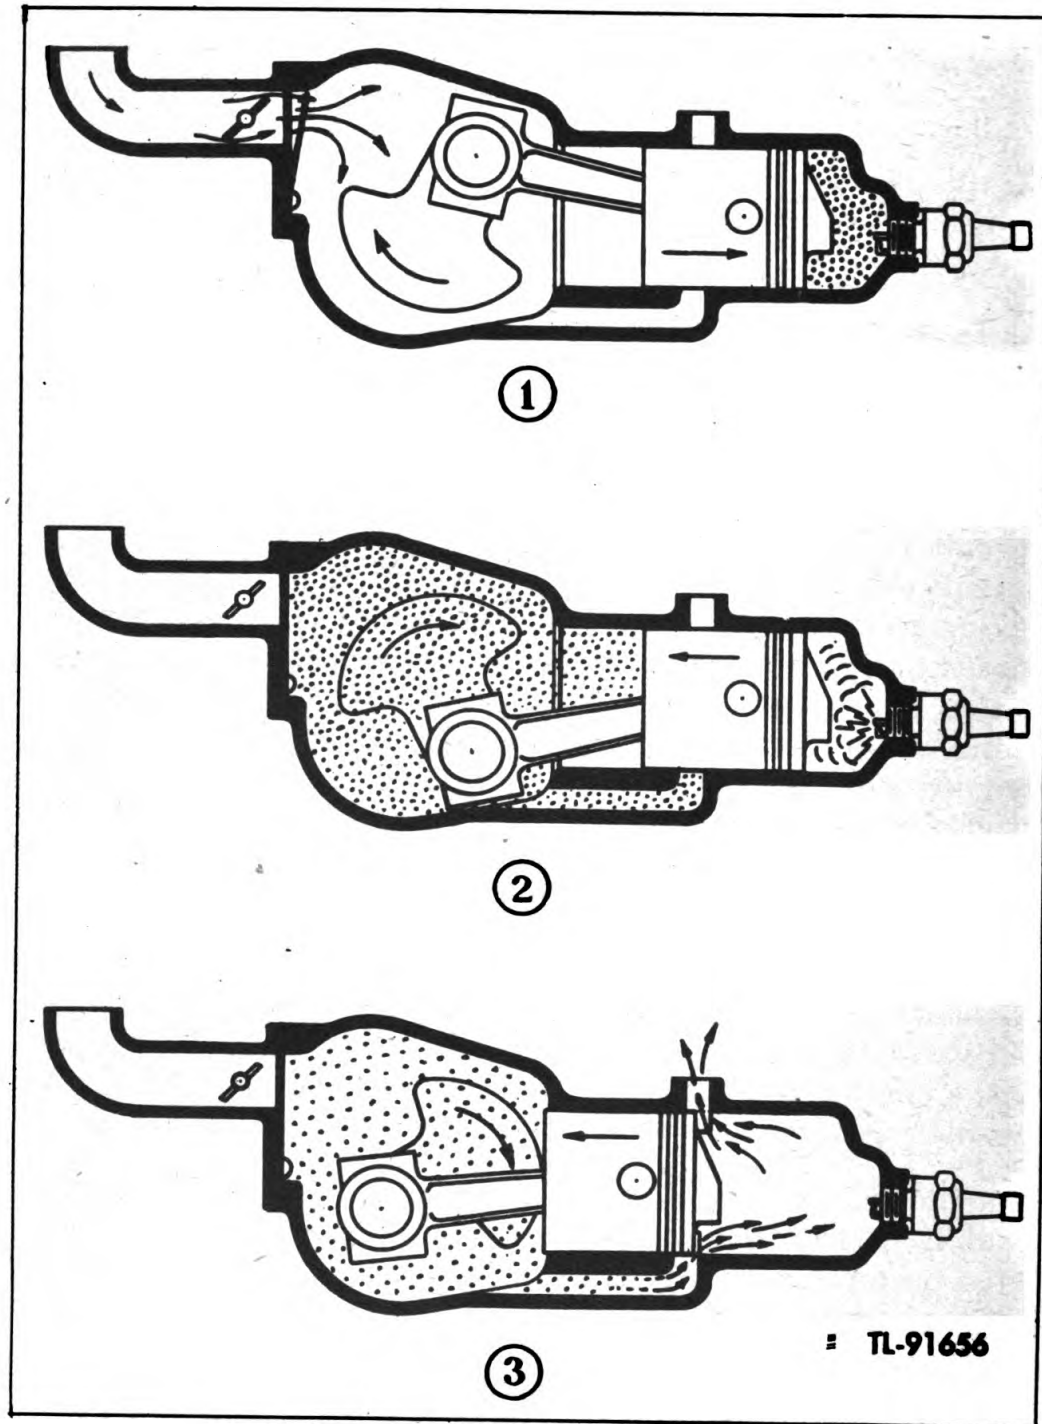

Figure 8. Principle of two-cycle engine
a. As shown in figure 8 (1), the piston, on its up stroke (compression), draws a charge of fuel into the crankcase through a reed valve attached to the rear of the carburetor. At the same time, a charge previously drawn into the crankcase and by-passed into the combustion chamber is compressed above the piston.
b. The charge in the combustion chamber is ignited when the piston is  $\frac{1}{8}$  inch from top dead center (fig. 8 (2)). The expansion of the burning gases forces the piston down on its power stroke. The descending piston compresses the charge previously drawn into the crankcase.
c. Near the bottom of its downward (power) stroke (fig. 8 (3)), the piston uncovers the exhaust ports, releasing the exhaust gases. At almost the same moment, the piston uncovers the intake ports, permitting the fuel charge compressed in the crankcase to rush through into the combustion chamber.